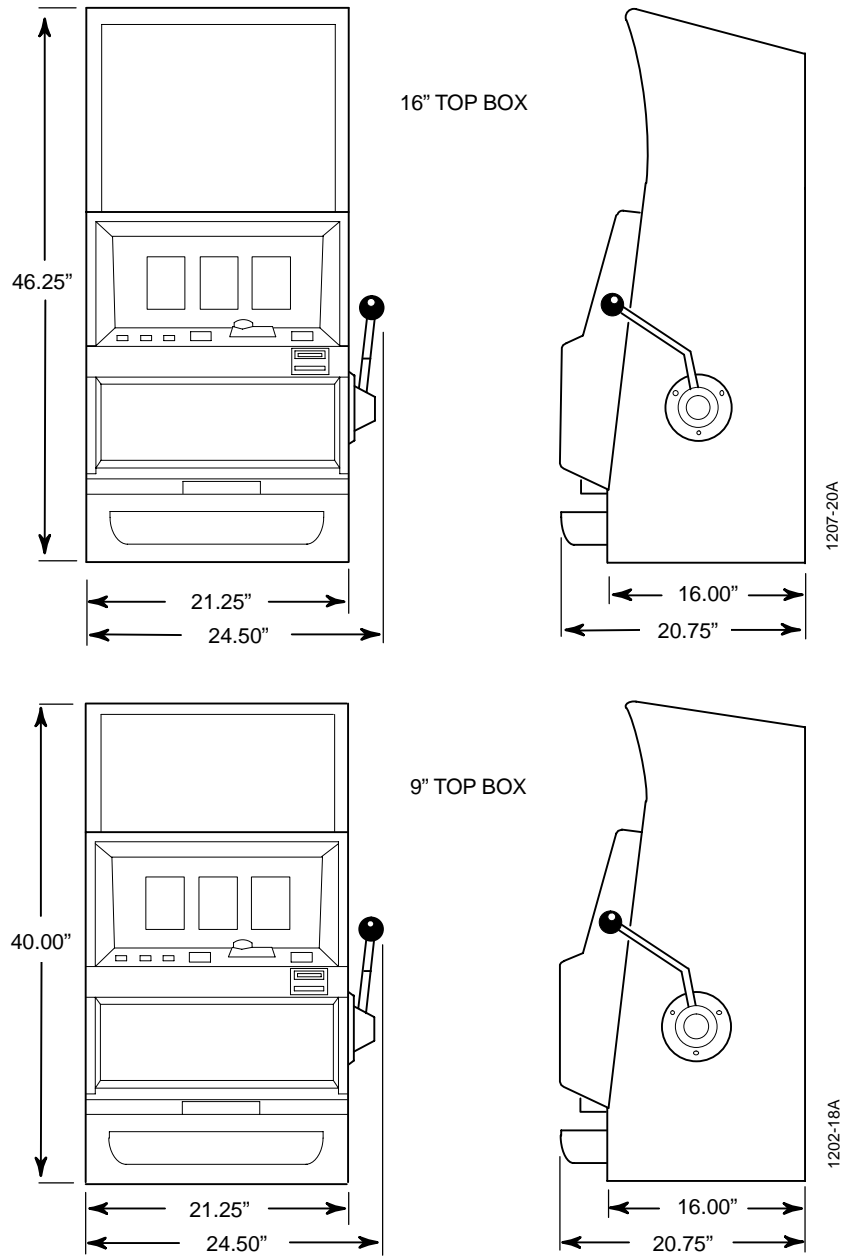

Figure 2-1. Cabinet Dimensions – S-Plus 16" and 9" Top Box Upright Models
- Cabinet Dimensions – Figures 2-1, 2-2 and 2-3